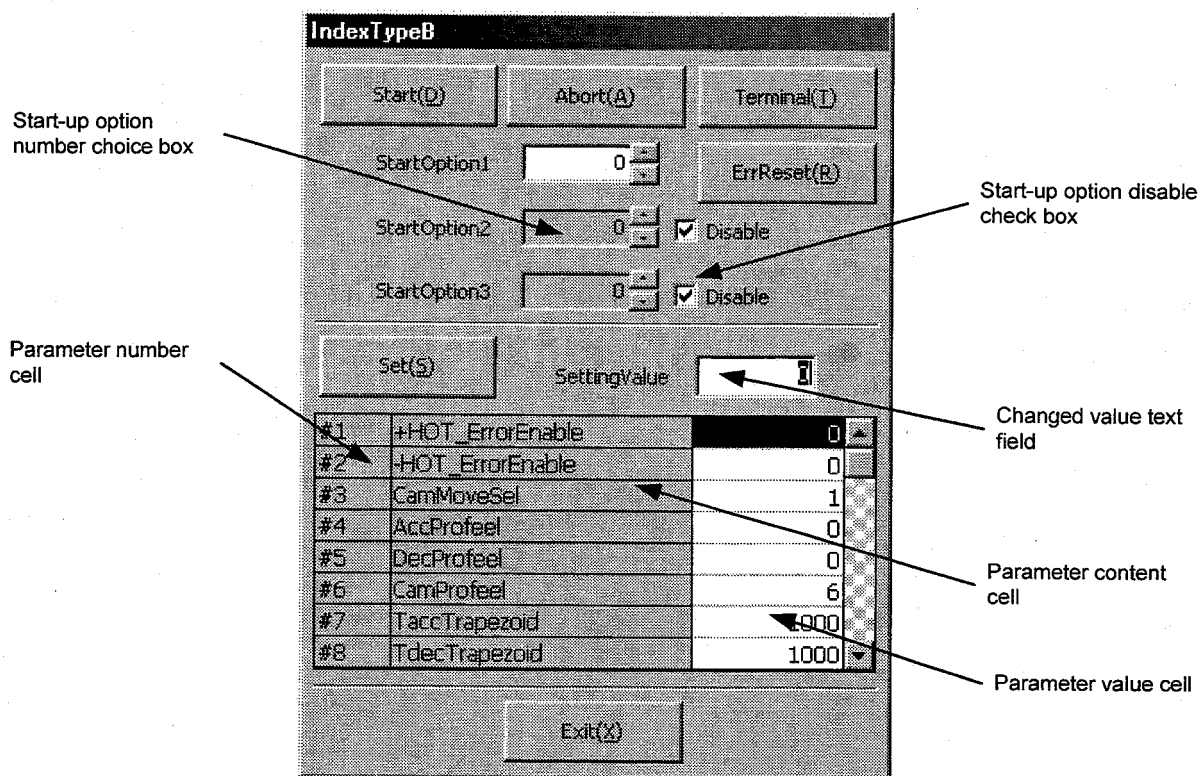

Figure 7.28 "Index TypeB" dialog box
- 1) Click "*Terminal (T)*."
Click "IndexTypeB (B)" in the "DriveMenu" dialog box to display the "Index TypeB" dialog box (see Figure 7.28). If the connection with the driver is established, the current values of the related parameters are read and can be edited.